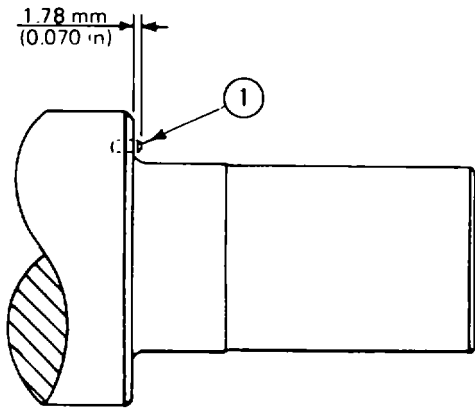

Figure 23. - Roll Pin Installation Diagram
- a. Remove the roll pin from the crankshaft and press a new pin (1, Fig. 23) in its place, as shown. Adhear to 1.78 mm (0.070 in.) pin protrusion.